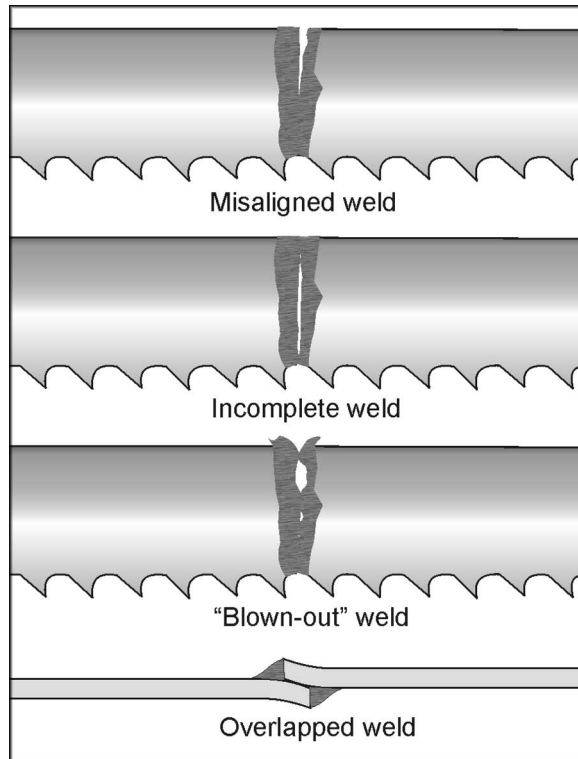

Figure 19
12. Remove the blade from the clamps, and carefully inspect it. The spacing of the teeth should be uniform and the weld should be located in the center of the gullet. Misalignment is easily noted at this time from the weld appearance. See Figure 19 for examples of incorrect welds.